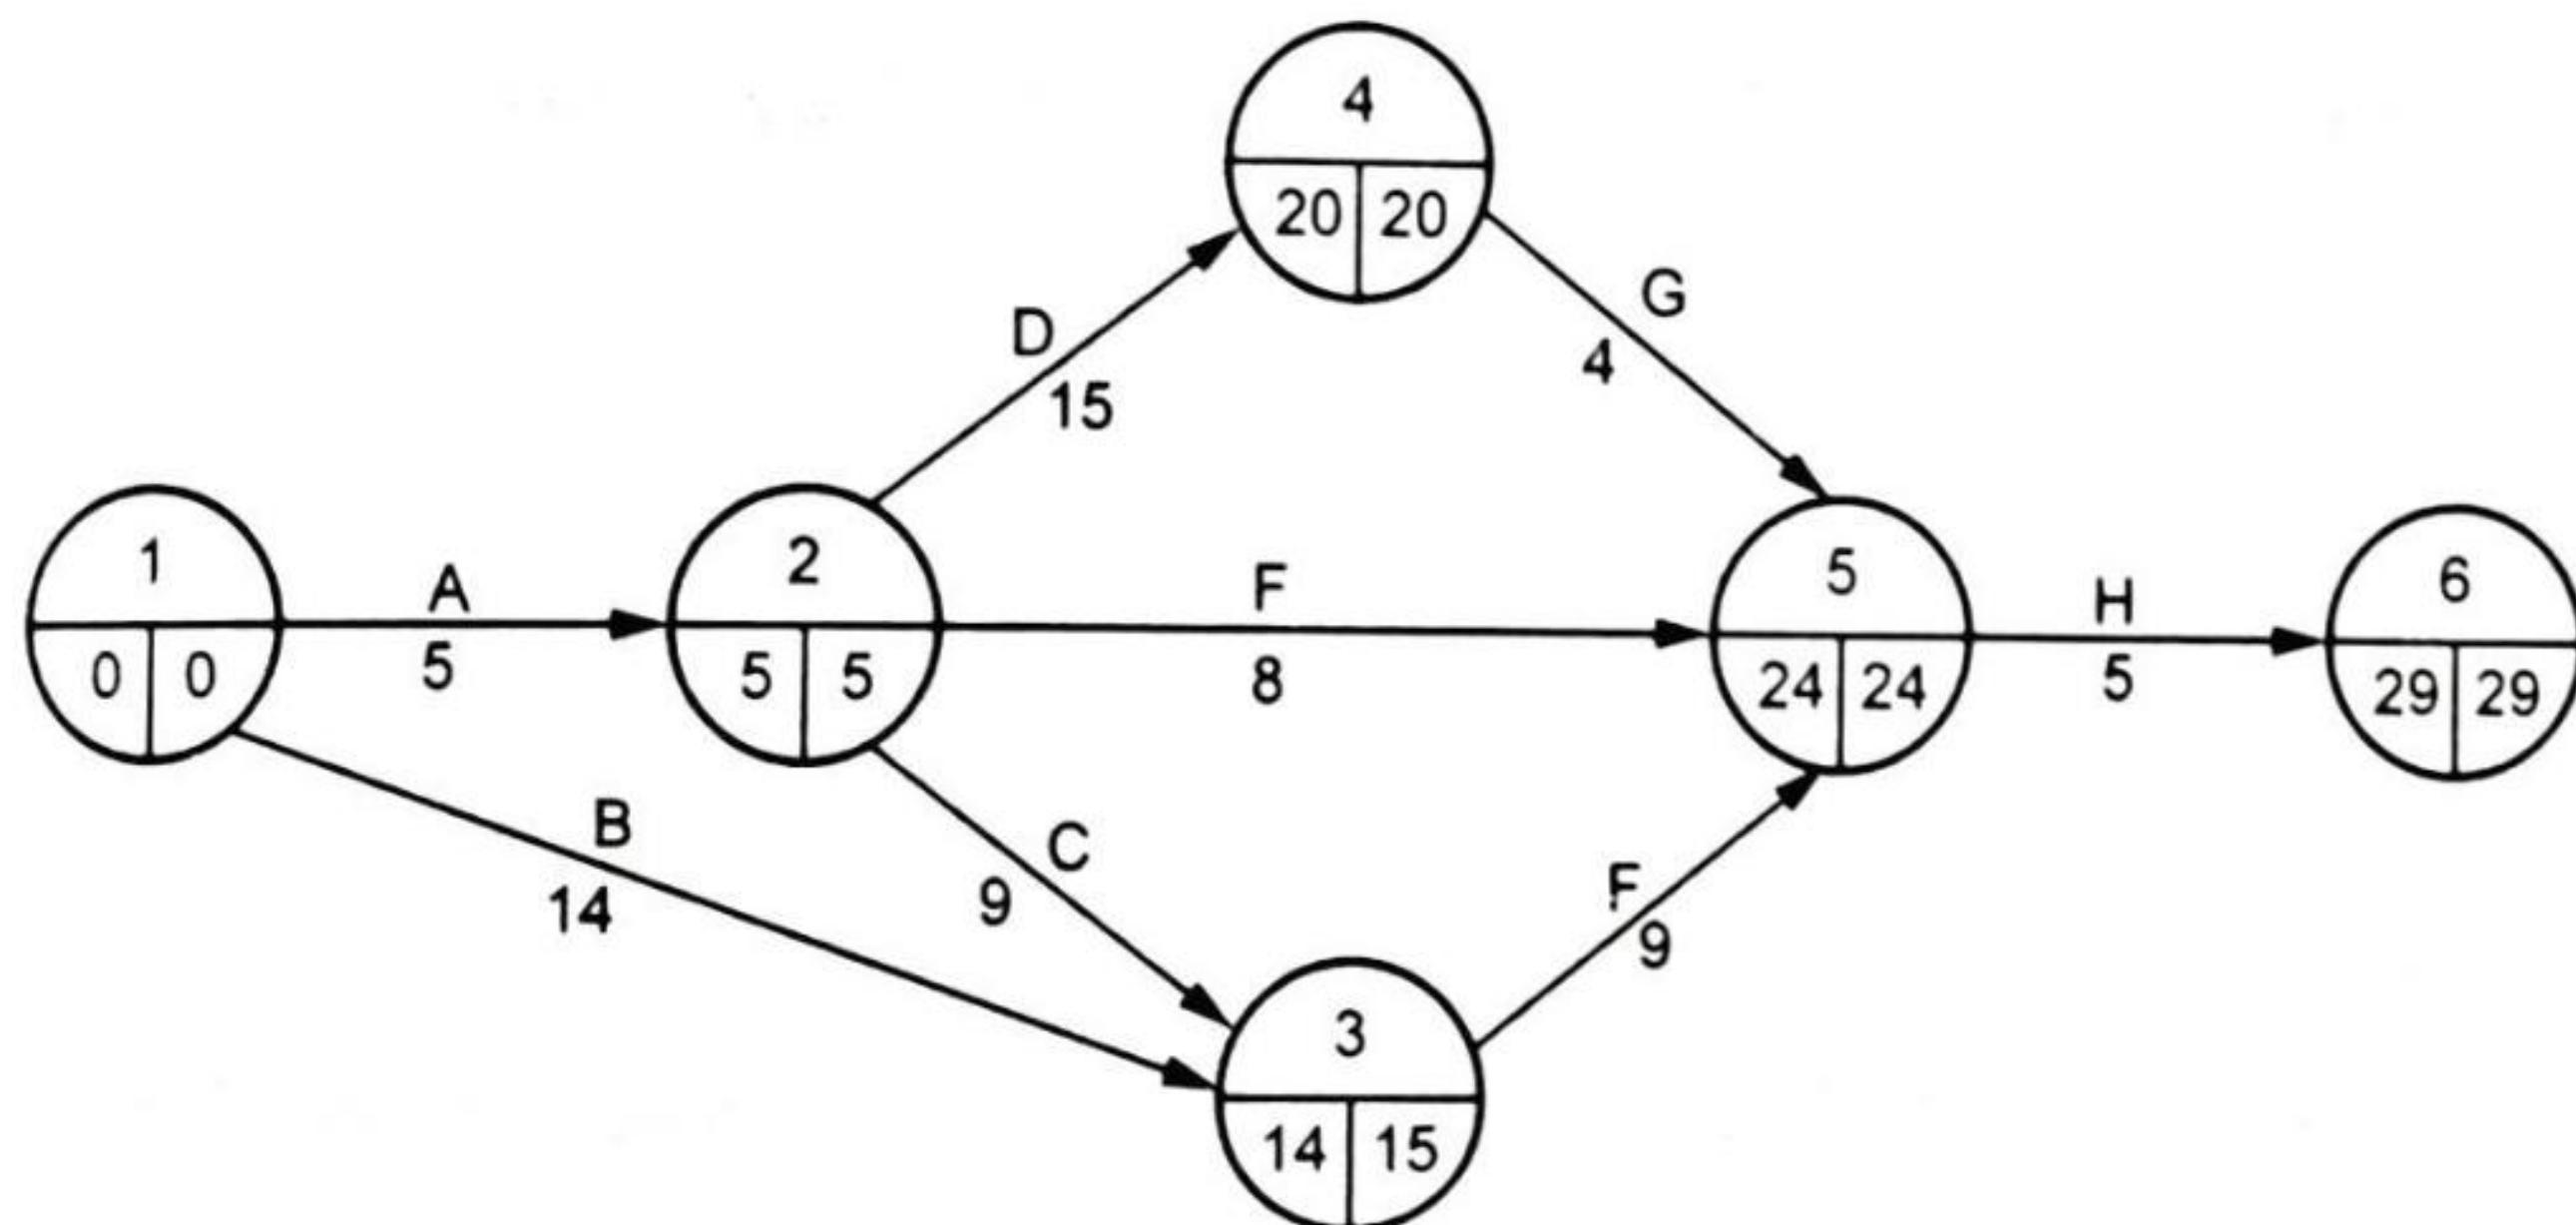

Fig. 3.5.3 : PERT network diagram
- i) The network diagram for the given data is shown in Fig. 3.5.3. The earliest time and variance of each activity is computed by using the formula.